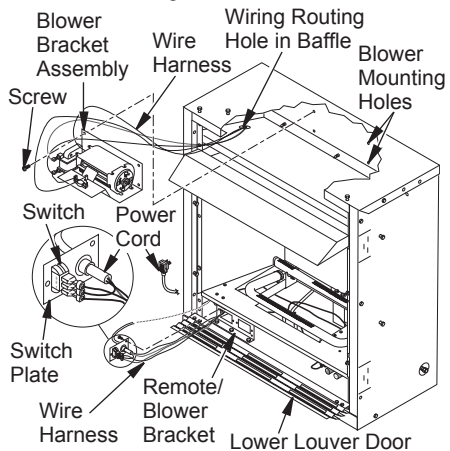
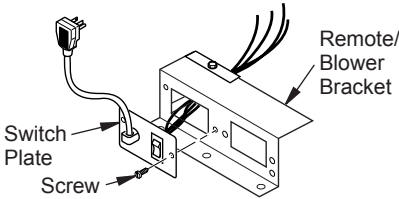

Figure 16 - Installing Blower Bracket Assembly (Remote-Ready Unit Shown)
Figure 18 - Installing Switch Plate to Remote/Blower Bracket
- Note the wire locations on back of AUTO/OFF/ON switch. The terminals on back of switch are numbered 1, 2 and 3. Carefully remove red wire from terminal 3 and blue wire from terminal 1. Black wire can remain on middle terminal 2 (see Figure 16).
- In top of the fireplace cabinet, locate the four mounting holes on the outer casing. Align these four holes with those on the blower bracket assembly. Attach blower bracket assembly to the outer casing with 4 #10 screws provided (see Figure 16).
- Insert the 4 wire harnesses from behind the remote/blower bracket through hole in rear of bracket with bushing and through the left rectangular hole to front of fireplace (see Figure 16).
- Install the switch plate on the remote/blower bracket with 2 #10 screws provided (see Figure 18, page 15). Route power cord out of the cabinet by inserting it through the bushing on the outer casing (see Figure 16). Plug fan kit into 120-Volt grounded power supply and test operation. *Note:* When switch is in the AUTO position, the fan will start after the fireplace has run for a few moments. The fan will continue to run for several moments after the fireplace has been turned off. When switch is in the ON position, the fan will run until turned to OFF.